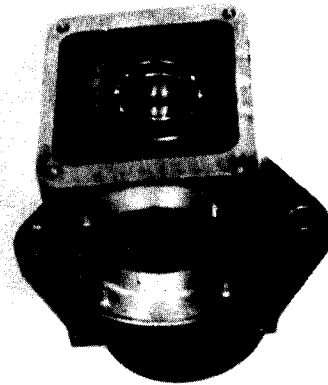

FIG. 4.22-INPUT SHAFT BEARING
1. Heat housing and install input shaft bearing, if removed. Fig. 4.22.